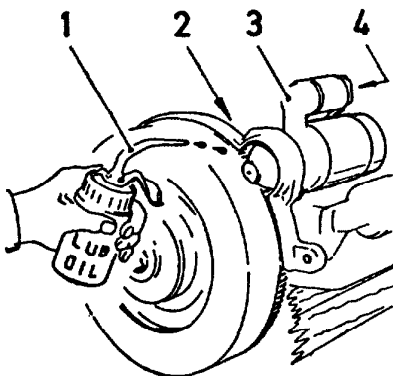

Fig 36
Apply a little oil (1) from time to time to the Bendix pinion (2) and shaft as shown in fig 36.